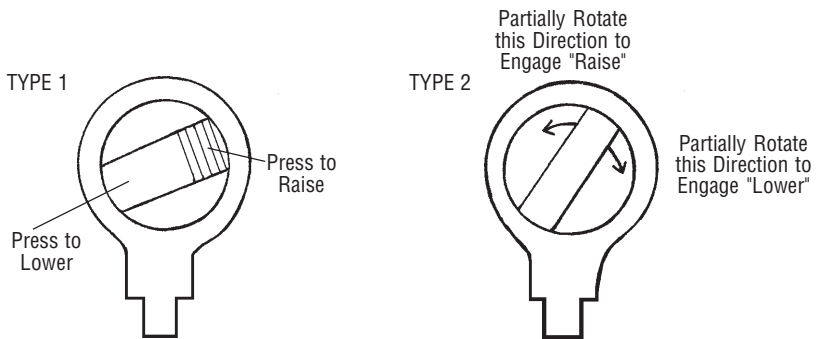

Figure 4-10. Set Ratchet Drive Directional Control
2. Set ratchet drive directional control for type of ratchet on your table (see Figure 4-10):